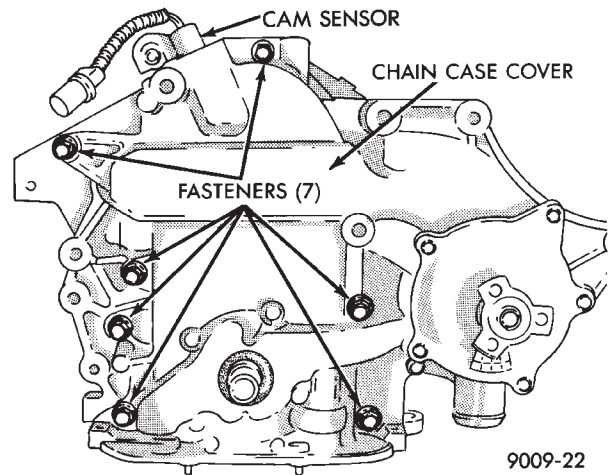

Fig. 3 Timing Chain Case Cover
(13) Remove cam sensor from chain case cover (Fig. 3).
(14) Remove chain case cover (Fig. 3).